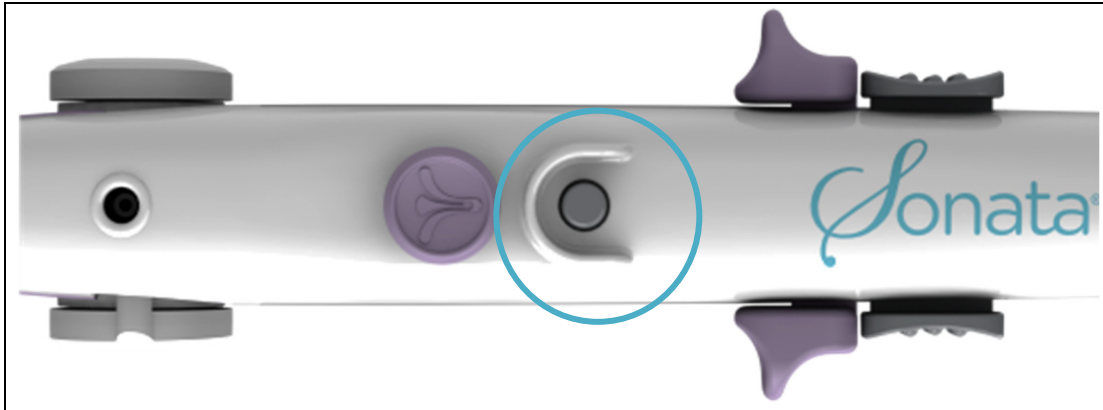

Figure 2-17. Confirm Button.
- Confirm Button (see section 2.8.2 and Figure 2-17 ~~Figure 2-17~~),